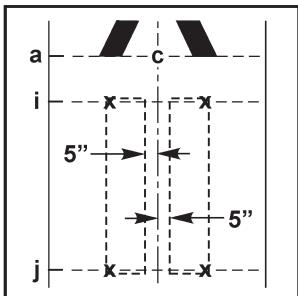
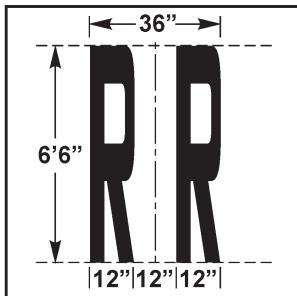

Figure 44
Figure 45
- Apply one coat of E-44T contact adhesive to the pavement as shown by the shaded area in Figure 44. This is where the two "R"s will be placed. Make sure to extend the E-44T adhesive at least 1 inch beyond the edges of the tape (see Figure 44).
11. Lay out both "R"s within the shaded area in Figure 44. Keep the outside edge of the "R" along the vertical chalk lines, and the bottom of the "R" on line "j" (see Figure 45).